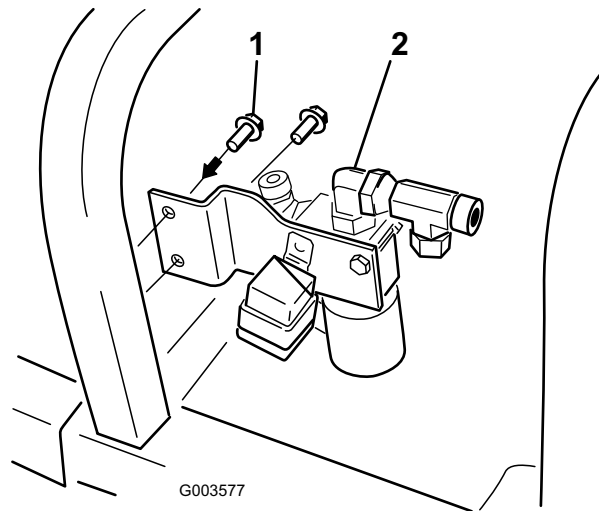

Figure 12
7. Install the valve bracket to the machine frame with 2 tapping bolts (9/32 x 3/4 inch) (Figure 12).